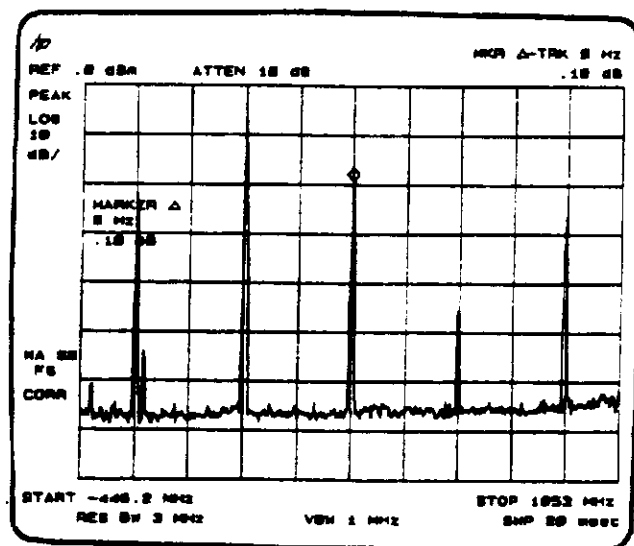

Figure 2-4
3. The "real time" signal frequency drift can be read from the screen if both the signal track and marker delta functions are active. Press [MARKER DELTA] and **SIGNAL TRACK**. "MKR Δ -TRK" appears in the upper right corner of the screen, as in Figure 2-4.